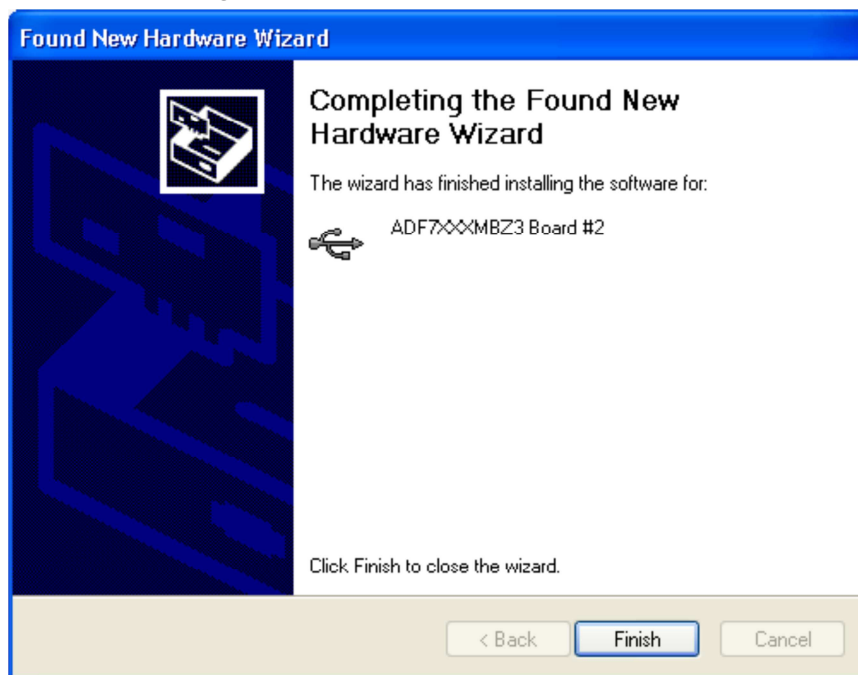

Figure 13
15. Click “*Finish*” (Figure 13):